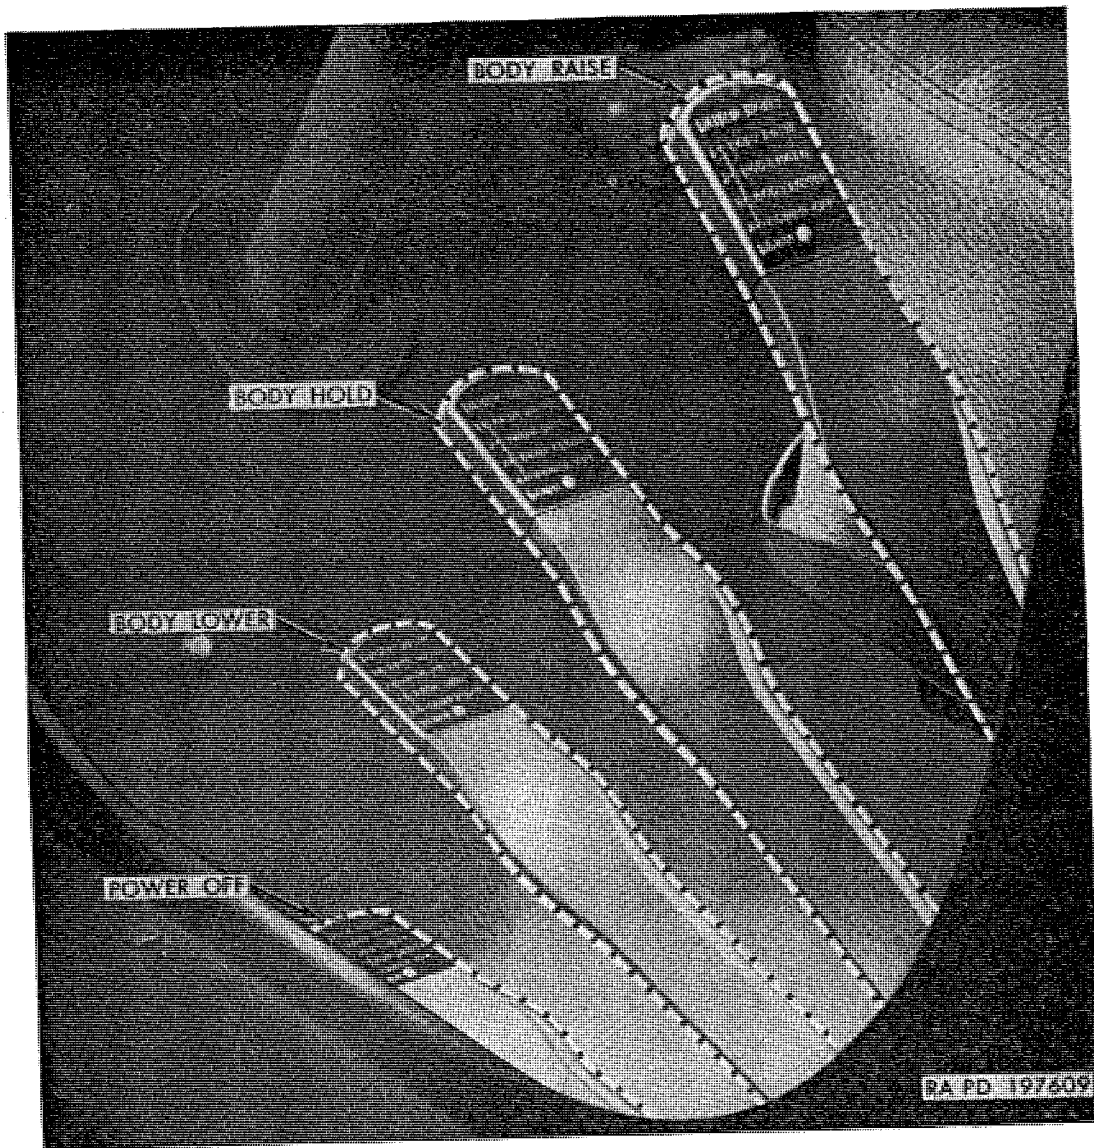

Figure 45. Dump body power-take-off lever operating positions.
b. *Power-take-off lever.* The power-take-off lever, which is positioned to operate hoist pump, is located to right of driver near floor when winch is not used, or to left of driver when winch is used. The lever is also interconnected with hydraulic hoist control box to control the raising, lowering, and holding of the dump body. The lever has four operating positions as indicated on instruction plate, on lever handle (fig. 45), and on dump body instruction plate (fig. 44) mounted on instrument board.
b. Hoist Operation with Vehicle Stationary (fig. 45).
(1) Raising.